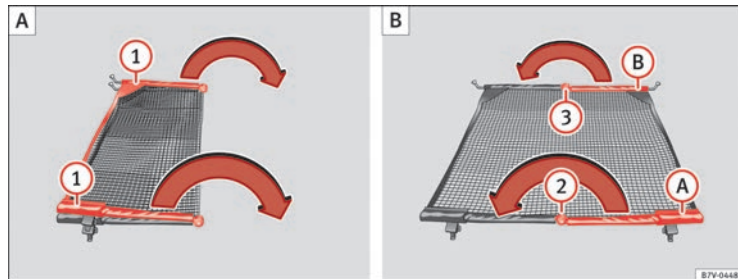

Fig. 94 Unfold the net partition ① then fold it again ② and ③
Fold out the support transversal rods ⇒ Fig. 94 ① for the net partition fully in the direction of the arrow until you hear a “click”.
- Press on the release button ⇒ Fig. 94 **2** and bend the rod **A** in the direction of the arrow with the release button pressed.
- Press on the release button ⇒ Fig. 94 **3** and bend the rod **B** in the direction of the arrow with the release button pressed.